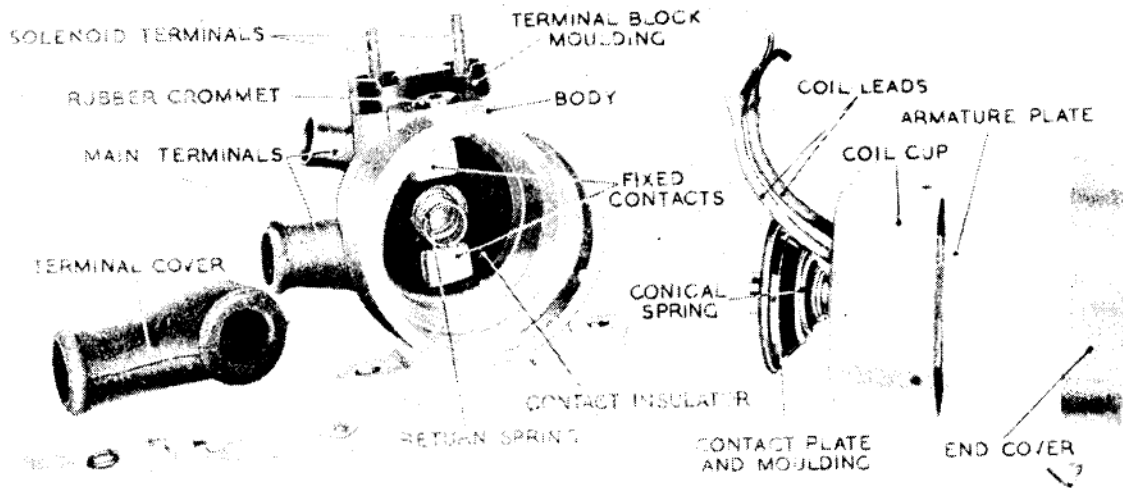

Fig. 2.—Rotax solenoid switch, Type D.0213, partly dismantled
5. It will be seen from the exploded view shown in fig. 2 that the switch comprises two main assemblies, namely the switch body or housing assembly and the pole and coil cup assembly.